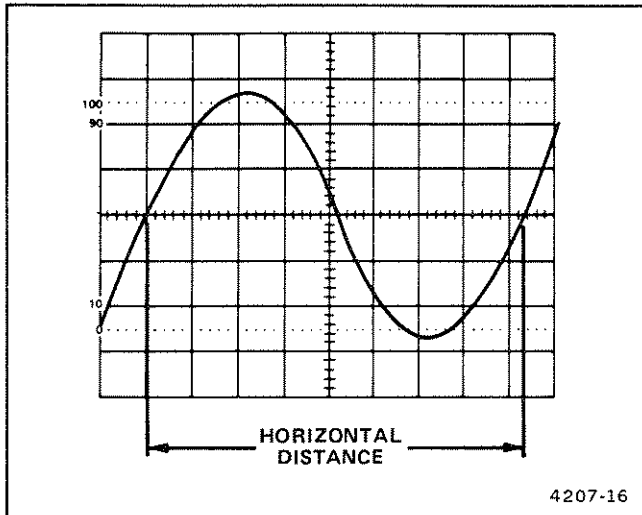

Figure 2-14. Time duration.
5. Position the display to place the time-measurement points on the center horizontal graticule line (see Figure 2-14).